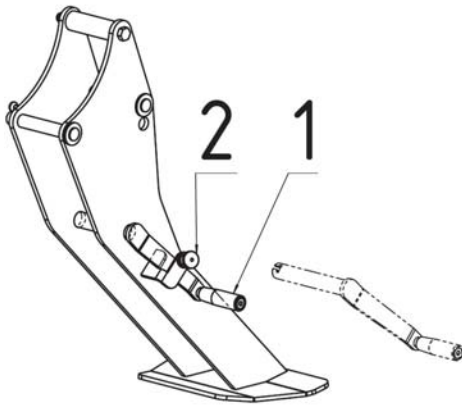
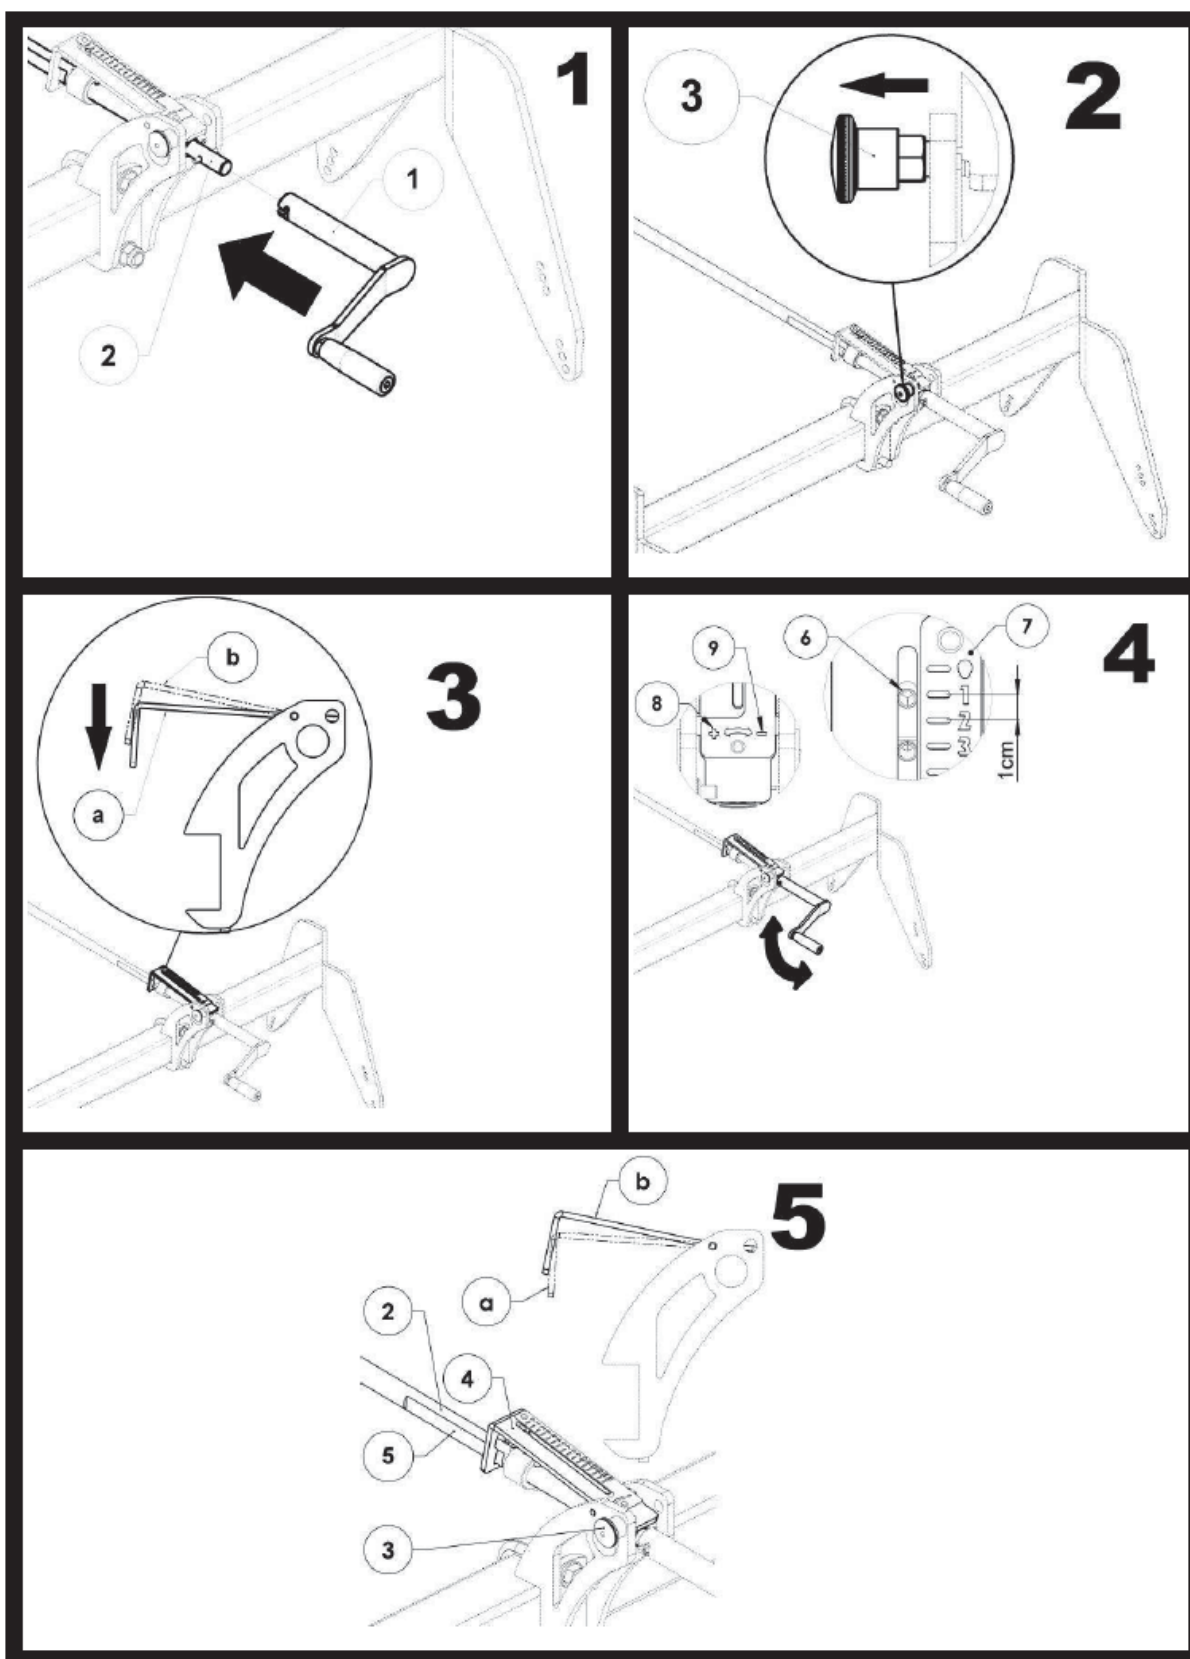

Fig. 15 Location of the working depth adjustment crank
Fig. 16 Depth adjustment mechanism
Working depth is regulated using the screw mechanism, separately for each working section (Fig. 16). Depth adjustment is based on changing the position of the tine section in relation to the position of the rollers. Adjustment is performed with a crank (1) (Fig. 15) located in a special place on the supporting leg.
- pull the positioning pivot (2) (Fig. 15)
- grab the crank (1) and remove it from the positioning slot
In order to change the working depth (Fig. 16):
1. Place crank (1) on axle (2).
2. Unlock the positioning pin (3).
3. Lower scale (4) to position "a".
4. Rotate the crank (Fig. 16). Turning clockwise in the direction of the "-" sign (9) will lower the working depth. Turning counterclockwise in the direction of the "+" sign (8) will in raise the working depth. Changing the position of the market (6) in relation to the scale (7) changes the working depth in c.a. 1cm steps.
5. After finishing adjusting of the axle (2) surface (5) must be positioned (Fig. 16) vertically.
6. Unlock the positioning pin (3) and lift the scale (4) to position "b" (Fig. 16). The locking pin should lock in position automatically.
8. After finishing the adjustments, place the cranks in its place on the machine (Fig. 15).